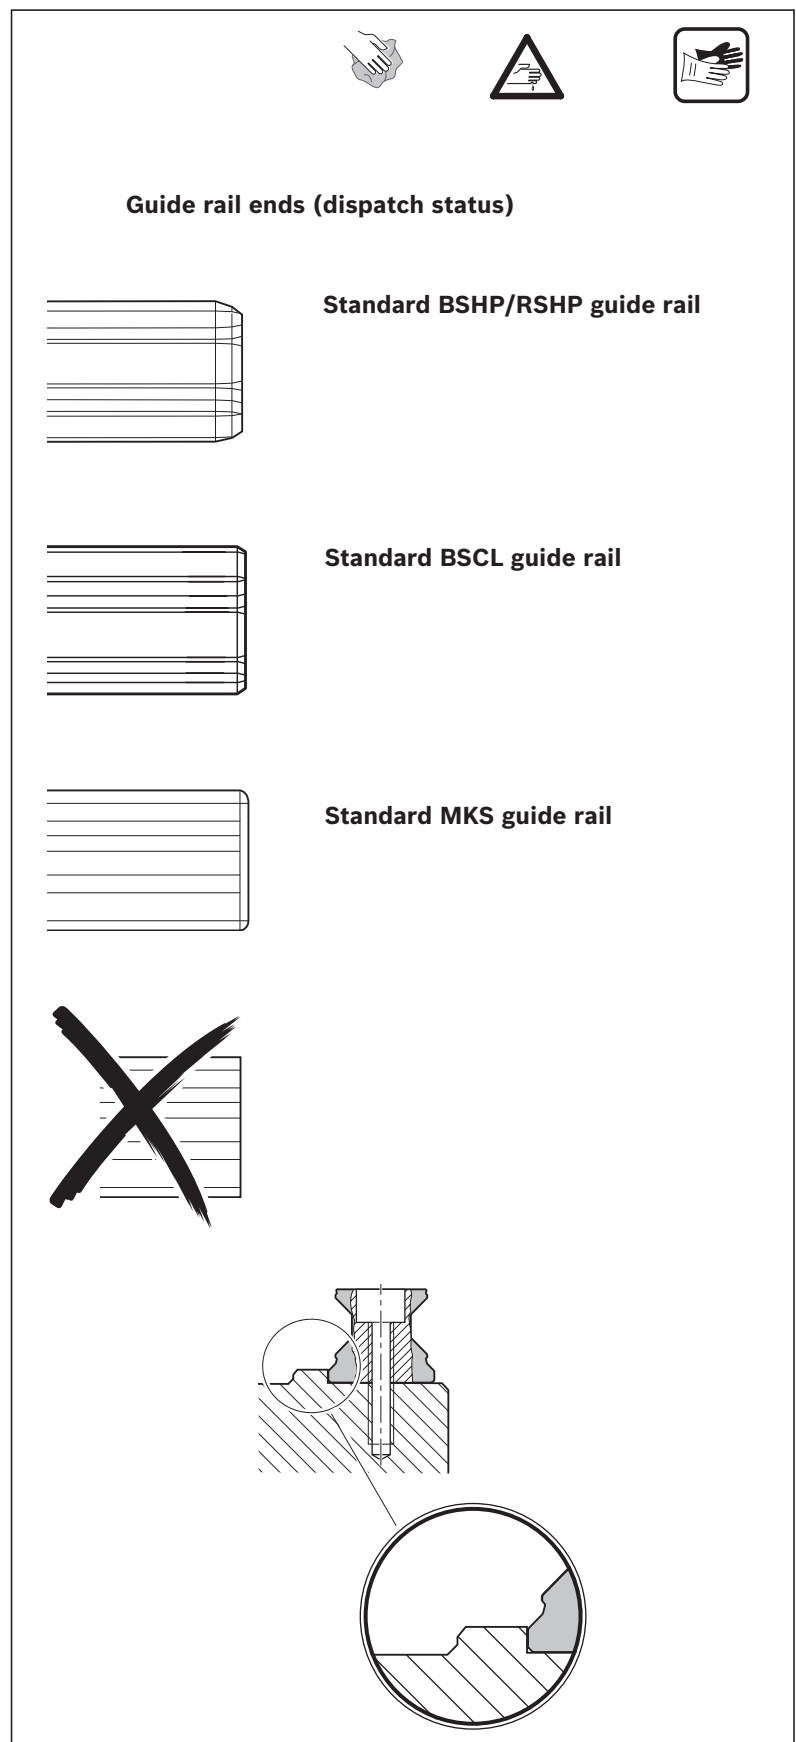

Fig. 11: Preparing the guide rails
- For deliveries of BSHP/RSHP guide rails in factory lengths/package units, the rail ends must be chamfered according to Fig. 11. For more information on this see the "Easy Customizing R3201031592 catalog".